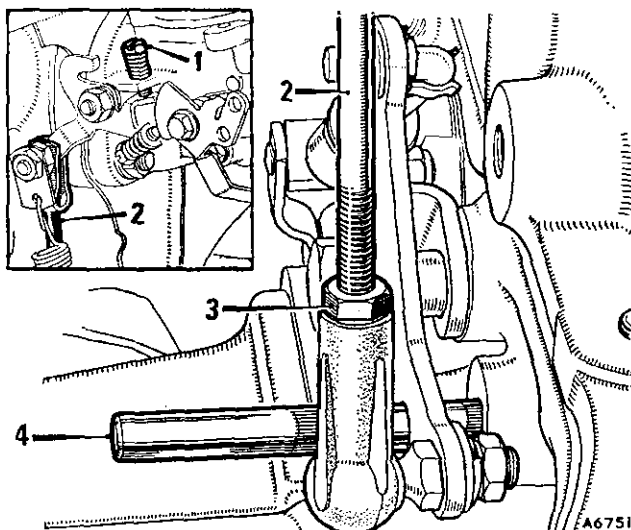

Fig. Fa.3
- (16) Run the engine to its normal working temperature.
- (17) Disconnect the governor control rod at the carburetter.
- (18) With the carburetter correctly tuned, adjust the throttle adjusting screw to give a tachometer reading of 650 r.p.m. at tickover.
- (19) Insert a $\frac{1}{4}$ in. (6.4 mm.) diameter rod through the hole in the governor control rod bell-crank lever and into the hole in the transmission case (Fig. Fa.3).
- (20) Slacken the locknut (3) (Fig. Fa.3) and adjust the length of the rod to suit the carburetter linkage in the tick-over position.
- (21) Reconnect the governor control rod to the carburetter. Tighten the ball joint locknut and remove the checking rod from the bell-crank lever.